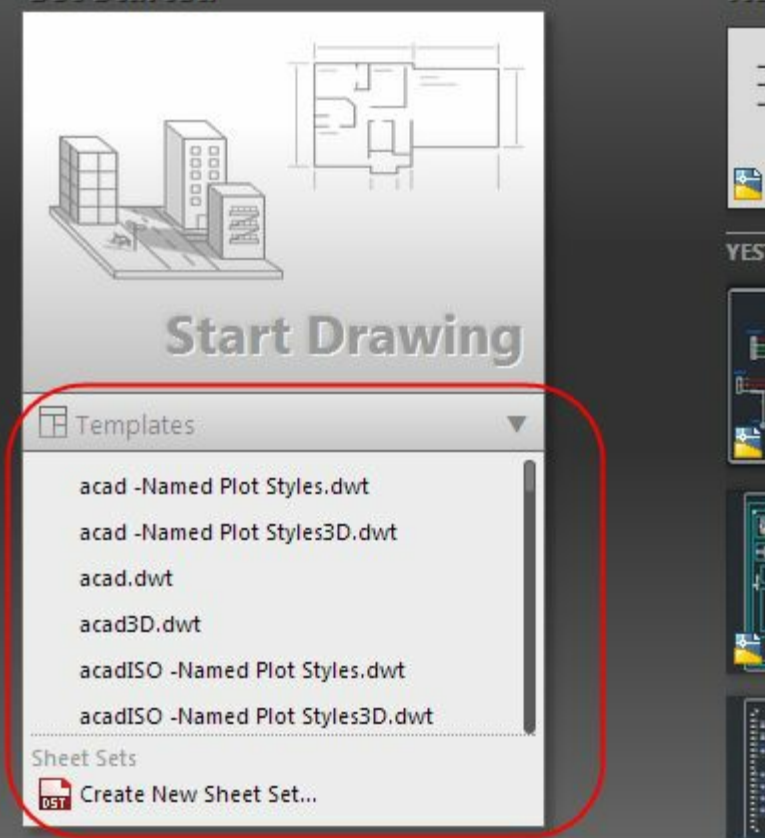

Figure-48. Drawing templates
- Click on the down arrow below **Start Drawing** button from the template area. The list of drawing templates will be displayed; refer to Figure-48.